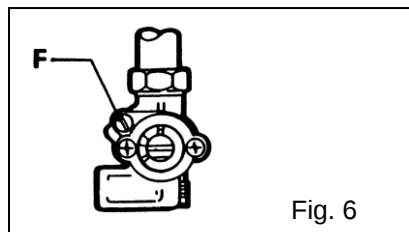

Fig. 6
5.1.3 Regulating the minimums (Fig. 6)
5.2.3 Regulating the minimums (Fig. 6)